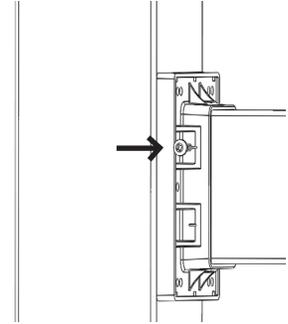

figure 4
Secure railing to bracket using the (2) 3/4" self tapping screws provided. Locate line depression on each side of bracket and use one screw on each side of rail. Be certain you choose the location that allows for connection to internal metal reinforcement. *Example: inserts may be of various configurations; including "U", "P", or "J". If your railing doesn't have a metal insert you may screw into the railing using either crease, with a screw on each side of the railing. See figure 4.*